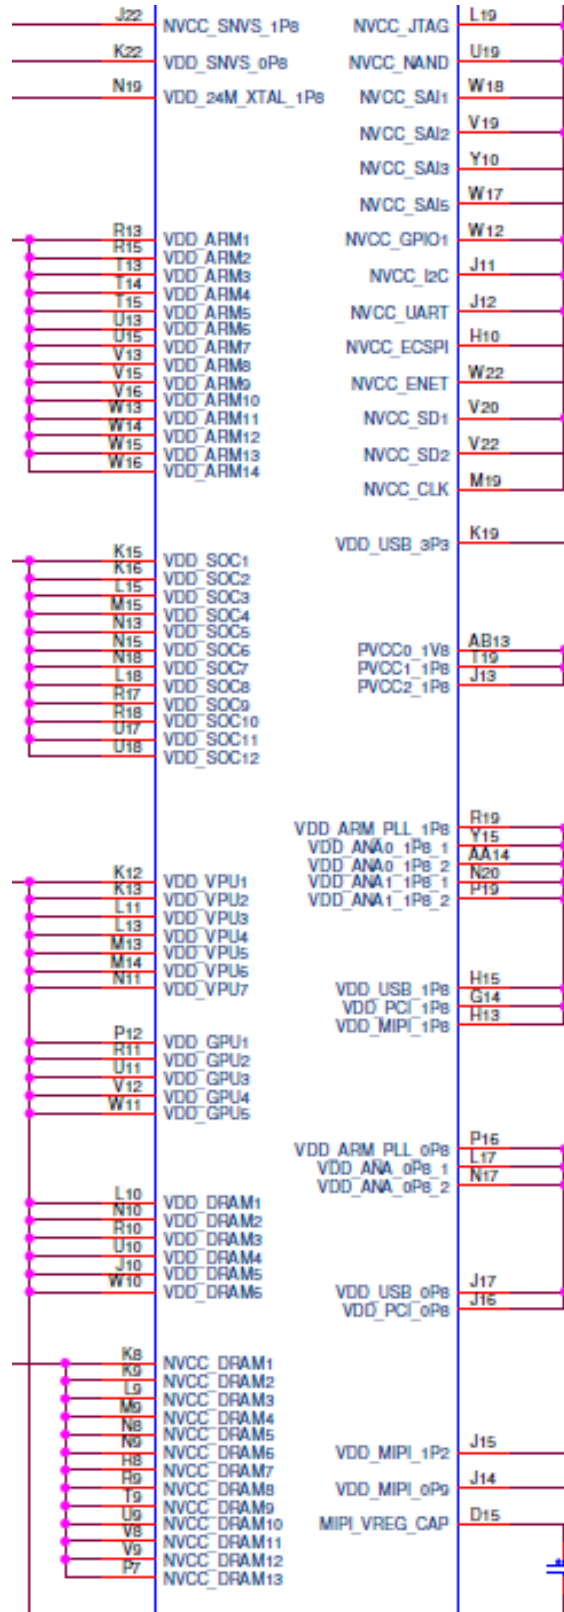

Figure 2. i.MX 8M mini power schematic
*Figure 2* is a snippet from the i.MX 8M mini LPDDR4 EVK board schematic showing the power distribution.